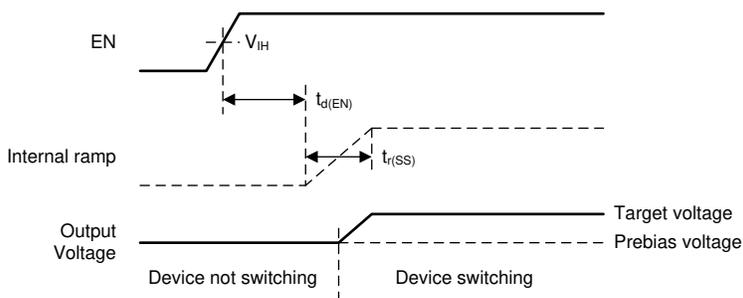

图 10. Start-Up Behavior into Prebiased (Low) Output
- If the prebias voltage is *lower* than the target voltage, the device does not start switching until the ramping output voltage is greater than the prebias voltage (see 图 10).